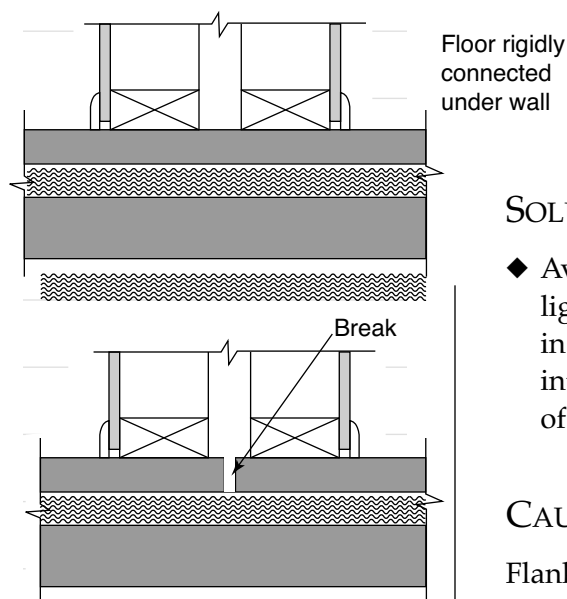

FIGURE 14
- ◆ Avoid installing floor systems that are rigidly connected under a lightweight wall. Flanking sound can travel along the top layer or in the joist to radiate in the room on the other side. Eliminate by introducing a break in the structure (see Figure 14). Use this type of floor construction with heavy walls only.